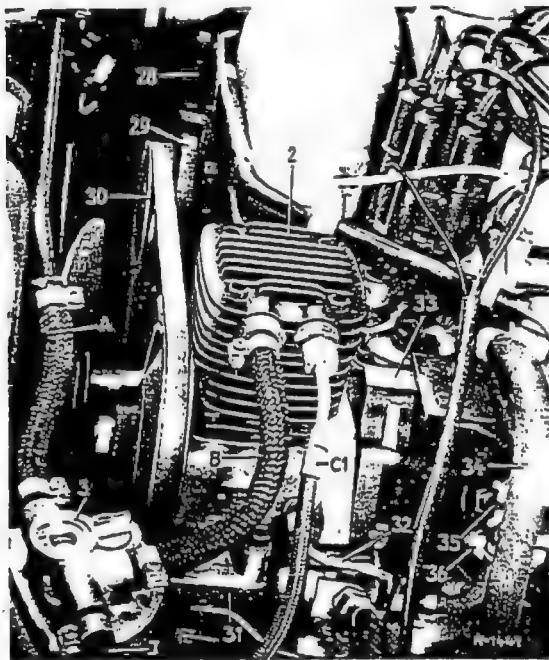

Fig. 32-15/1
1. Disconnect hose lines (B) and (C 1) and the pressure oil line (32) from the air compressor (Fig. 32-15/1).